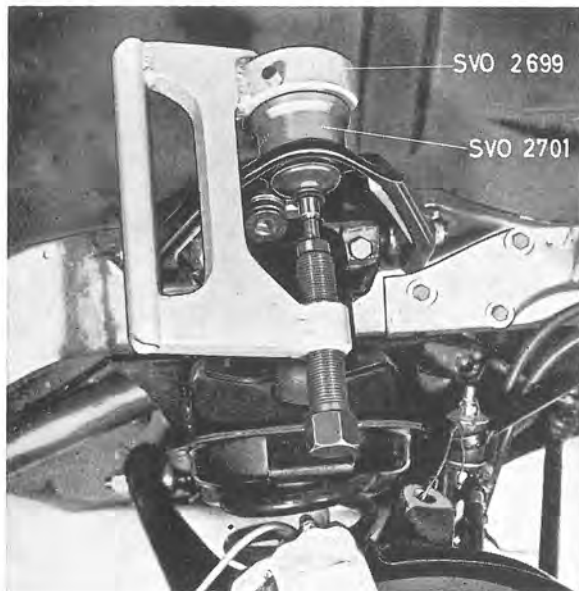

Fig. 6-21. Removing upper ball joint
3. Slacken but do not remove the nut for the upper ball joint. Tap with a hammer on the steering knuckle round the ball joint pin until it loosens from the axle. Remove the nut and suspend the upper end of the knuckle with a wire to avoid straining the brake hoses, see Fig. 6-21.
4. Slacken the nuts for the control arm shaft a 1/2 turn. Lift up the control arm slightly and press out the ball joint with press tool 2699 and sleeve 2701, see Fig. 6-21.
3. Slacken but do not remove the nut for the upper ball joint. Knock with a hammer on the steering knuckle round the ball joint pin until it loosens from the axle. Remove the nut and suspend the upper end of the knuckle with a wire to avoid straining the brake hoses, see Fig. 6-21.